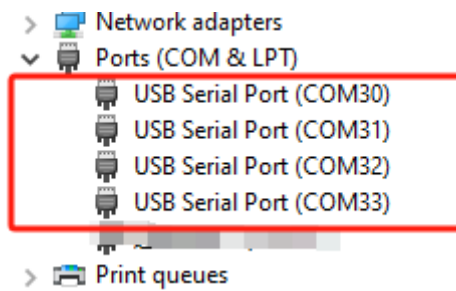

Figure 15: Device Manager
Step 1: Connect the EVB to the PC. After a successful connection, four random but consecutive serial port numbers will appear as shown in Figure 15: Device Manager.